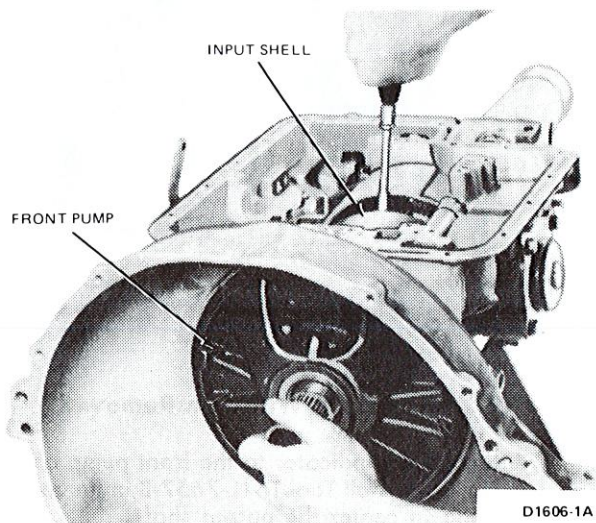

FIG. 14 Removing Front Pump
8. Remove the front pump attaching bolts. Pry the gear train forward as shown in Fig. 14 to remove the pump.